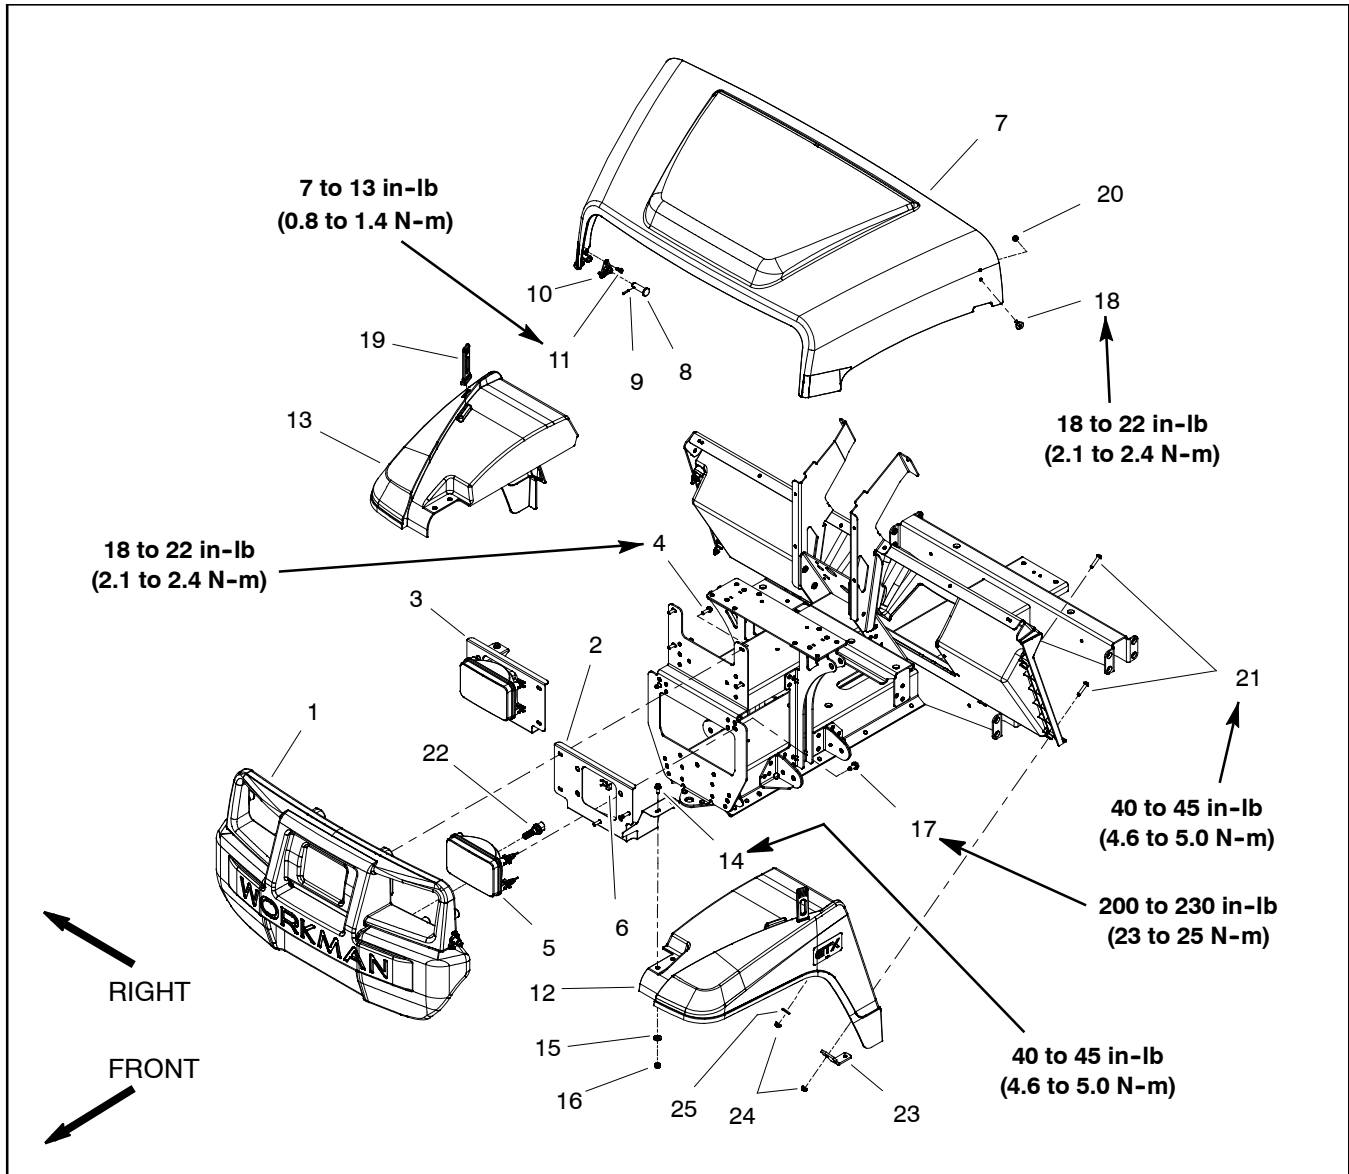

Figure 41
Removal (Fig. 41)
2. Remove front fenders, hood or front bumper using Figure 41 as a guide.
Installation (Fig. 41)
1. Install removed body components using Figure 41 as a guide. During assembly, use fastener torque specifications that are identified in Figure 41.